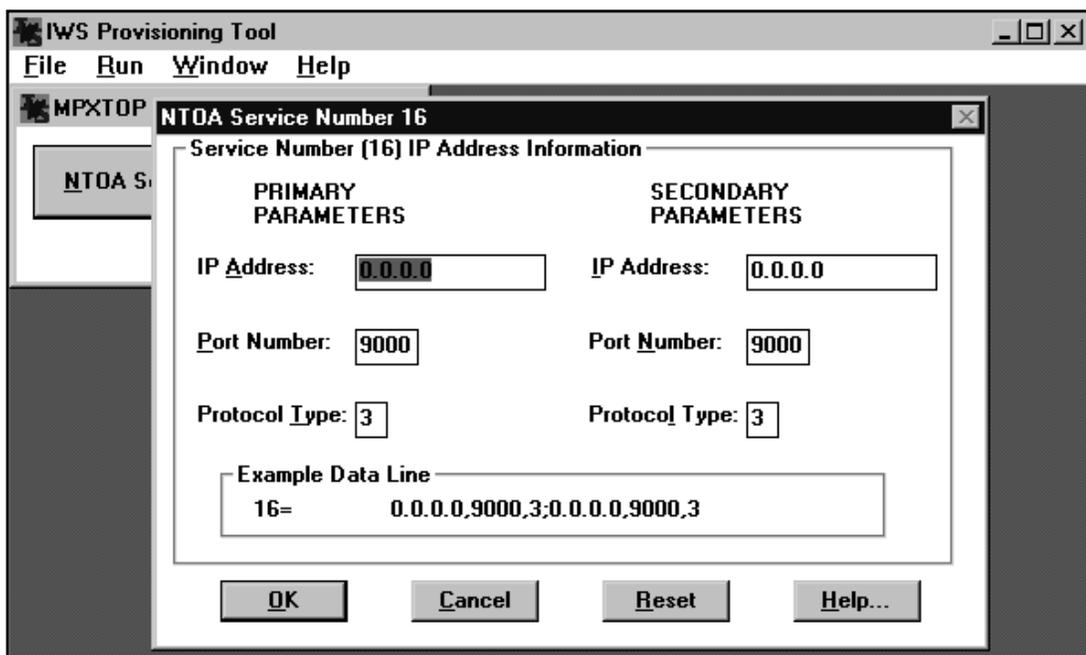

FIGURE 110. Example of the NTOA Service Number 16 dialog box (for IWS Billing)
3. Select the NTOA Service Number 16 button to enter primary and secondary IP address information. (See Figure 110.)